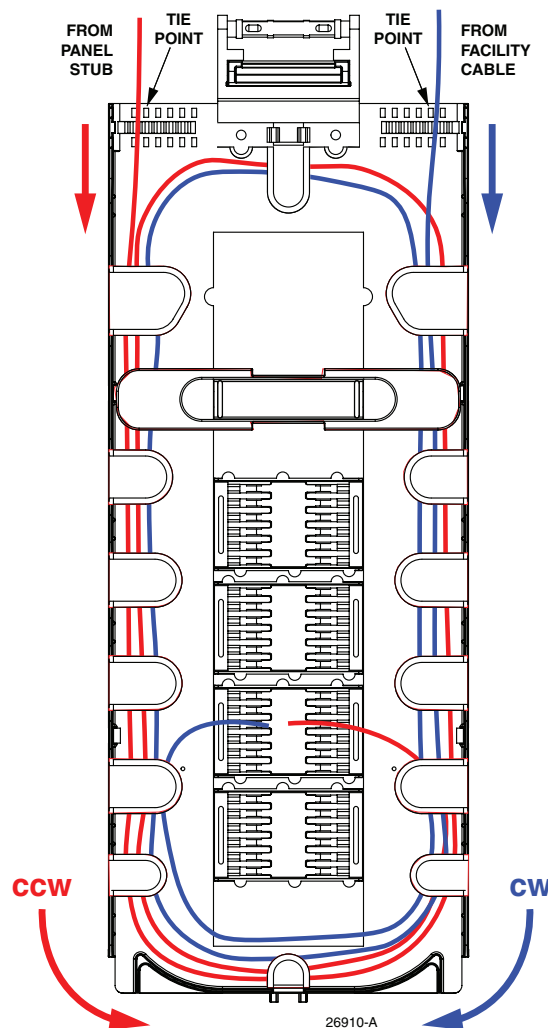

Figure 23. Routing on Splice Tray
9. Locate the first group of fibers to be spliced (288 fibers from the left side of the cabinet and 288 fibers from the right side of the cabinet) and secure the mesh sleeves to the splice tray (Figure 23). The fibers from the left side of the cabinet are represented in red and the fibers from the right side are represented in blue in this illustration.
10. Route the bare fibers ribbons from the left side of the cabinet counterclockwise around the splice tray and the ribbons from the right side of the cabinet clockwise as illustrated in Figure 23.